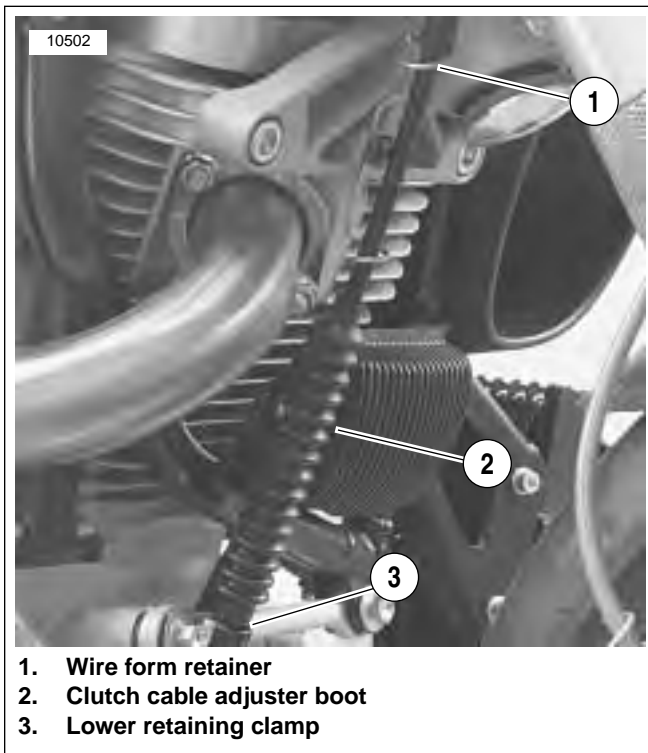

Figure 3-20. Clutch Cable Wire Form Retainer, Retaining Clamp and Adjuster Boot
30. See Figure 3-20. Disconnect clutch cable.
- b. Slide clutch cable adjuster boot (2) up to access clutch adjuster.